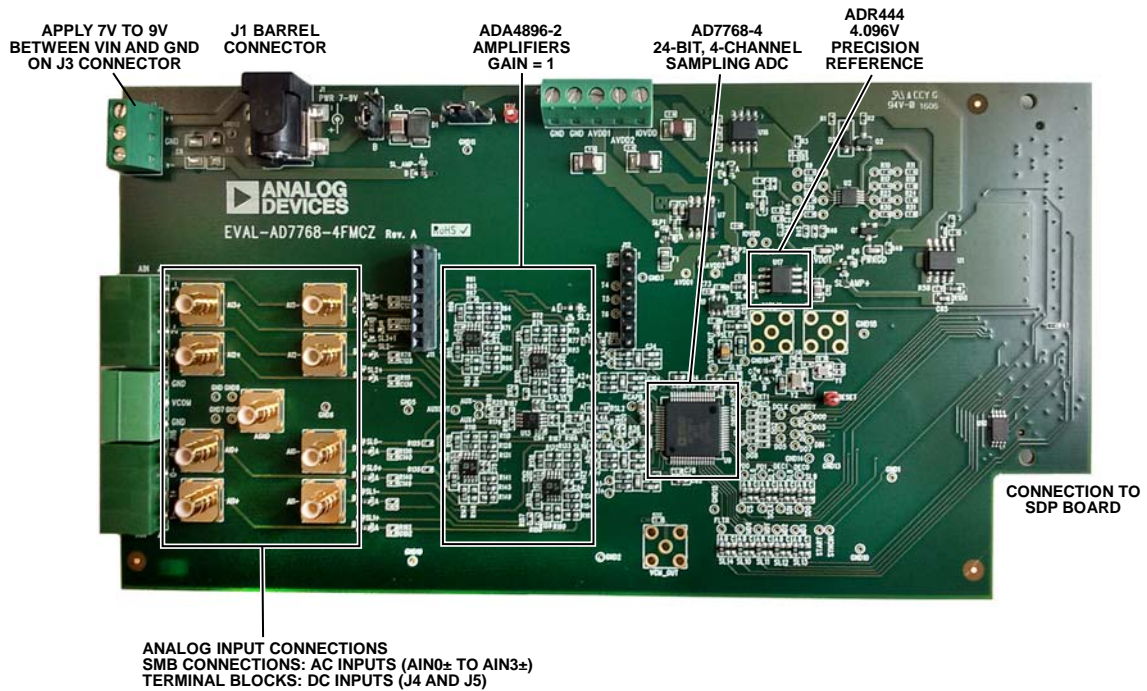

Figure 1. EVAL-AD7768-4FMCZ Evaluation Board
2. Connect the SDP-H1 board to the evaluation board (unpowered). Figure 1 illustrates the connection: J4 of the SDP-H1 board adapts to the receiving socket on the EVAL-AD7768-4FMCZ printed circuit board (PCB).
As shown in Figure 1, the AIN0± to AIN3± analog inputs are accessible through either the SMBs or the terminal blocks.